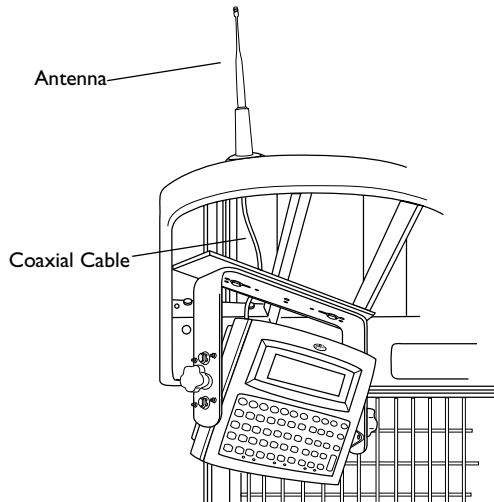

Figure 5. Vehicle-Mounted Antenna
5. Optional: install a vehicle-mounted antenna. Sometimes you can improve wireless communication by mounting an external antenna onto the vehicle, as shown in Figure 5. Symbol has several different external antennas available. Contact your Support Representative for more information.